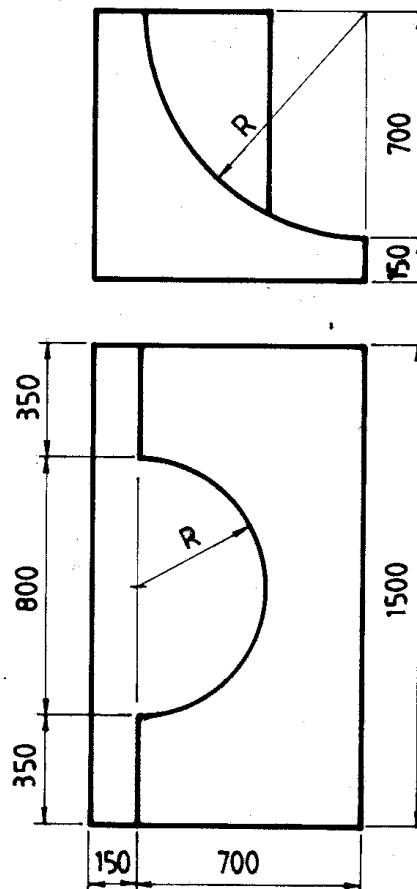

FIG. 5
5. Fig. 5 shows the plan and elevation of a shaped building stone.